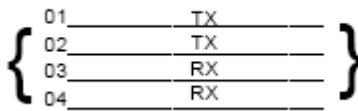

Figure 3-2. Four-Wire Circuit Order
7. Install the new 4-wire dedicated circuit on the telco side of the NEXRAD RPG dedicated block. Punch in the circuit at its new location on 4-RJ2DX (or TB4) per Figure 3-2 using an impact punch tool (Jensen 23-814 or equivalent). If this is an NWS RPG, which has an extended RPG demarc, then install the dedicated circuit on the telco side of the extended dedicated demarc block.